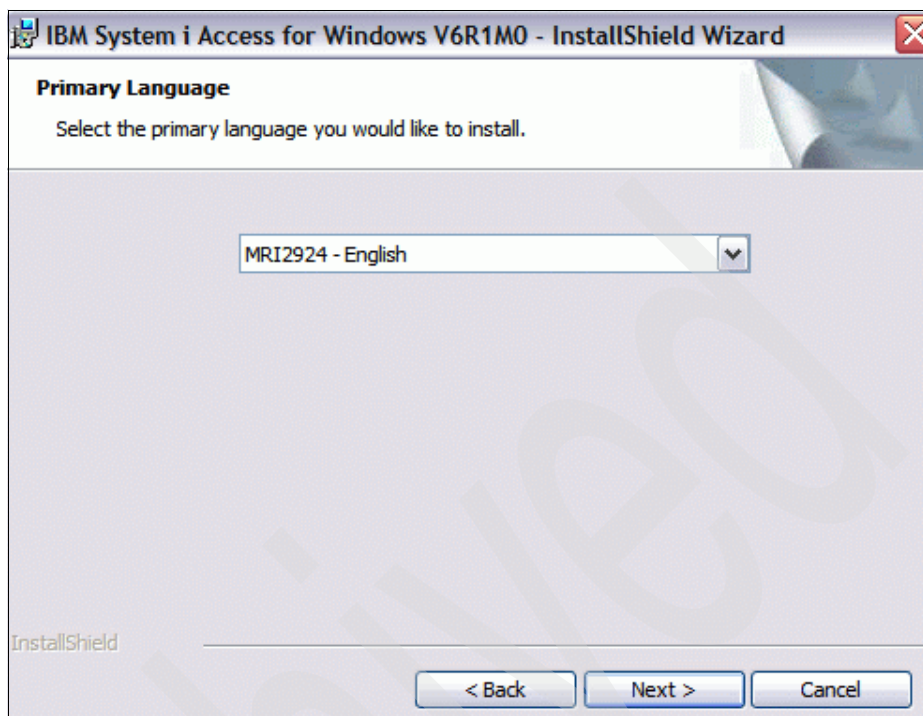

Figure 5-13 IBM System i Access for Windows Primary language
5. Depending on the native language, a selection can be made in the following window as shown in Figure 5-13 on page 230. Normally the same language will be chosen as the language for the IBM i 6.1 Operating System.